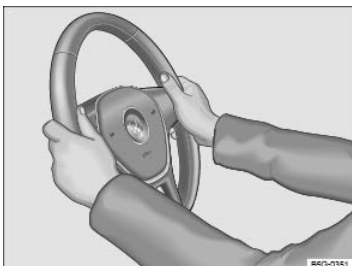

Fig. 49 Steering wheel: 9 o'clock and 3 o'clock positions.
- Adjust the steering wheel so that it can be held with hands at the 9 o'clock and 3 o'clock positions on the outside of the steering wheel rim and with the arms slightly bent at the elbow ⇒ Fig. 49.